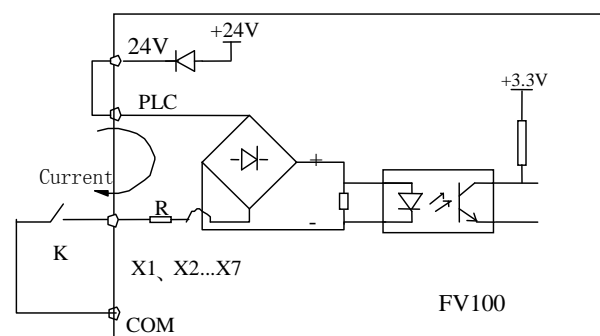

Fig.4-7 Wiring method of using the internal 24V power supply
FV100 multi-function input terminal uses a full-bridge rectifying circuit as shown in Fig.4-7. PLC is the common terminal of terminals X1~X7, The current flows through terminal PLC can be pulling current and the feeding current. Wiring of X1~X7 is flexible and the typical wiring are as follows:
1) Use the internal 24V power supply of VFD, the wiring is as in fig.4-7.